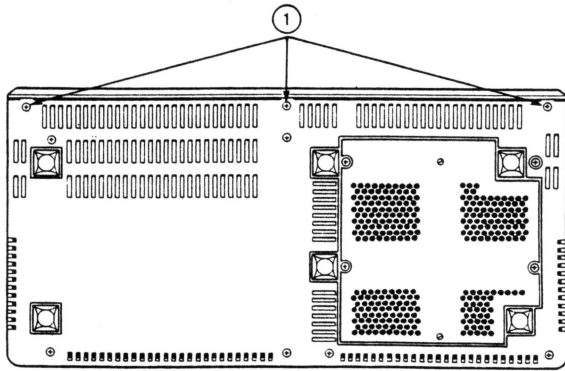

FIGURE 1
2. Turn the ProFile over, lay it on the protective pad, and remove the three Phillips-head screws from beneath the front panel (Figure 1, #1).